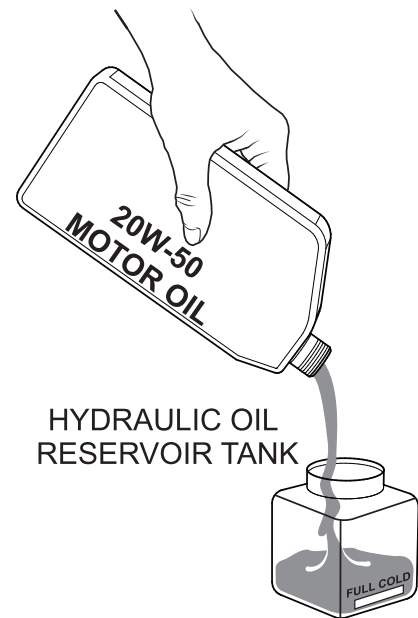

**Figure 39. Cleaning The Spark Arrester**
2. Remove the 5 mm screw (4) from the muffler protector, then remove the muffler protector.
3. Carefully remove carbon deposits from the spark arrester screen (Figure 39) with a wire brush